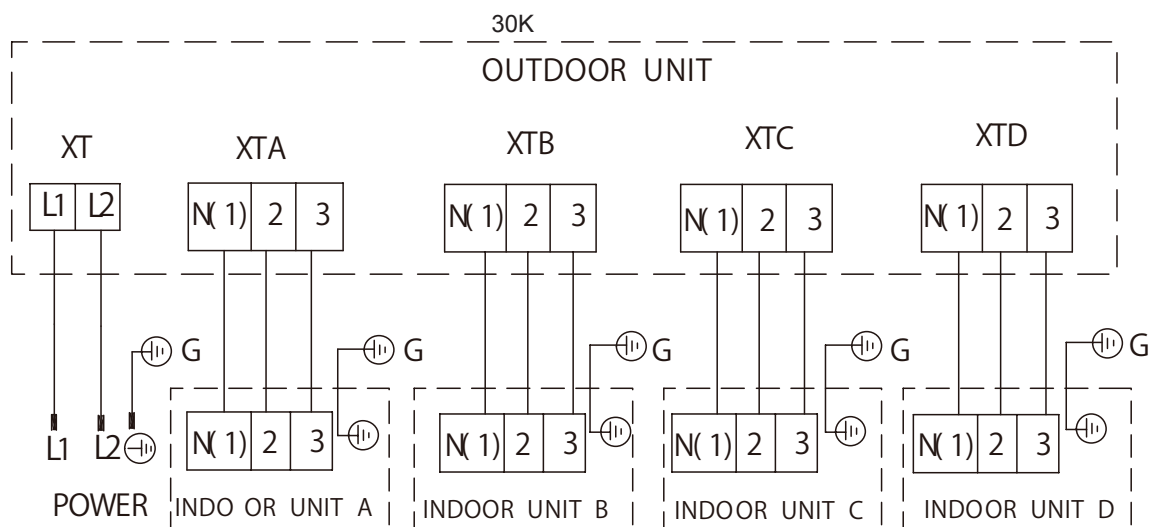

Fig.9
- The joints of the indoor unit should be wrapped with the insulating material and no gap is allowed on the joint of the indoor unit, as shown in Fig.9.